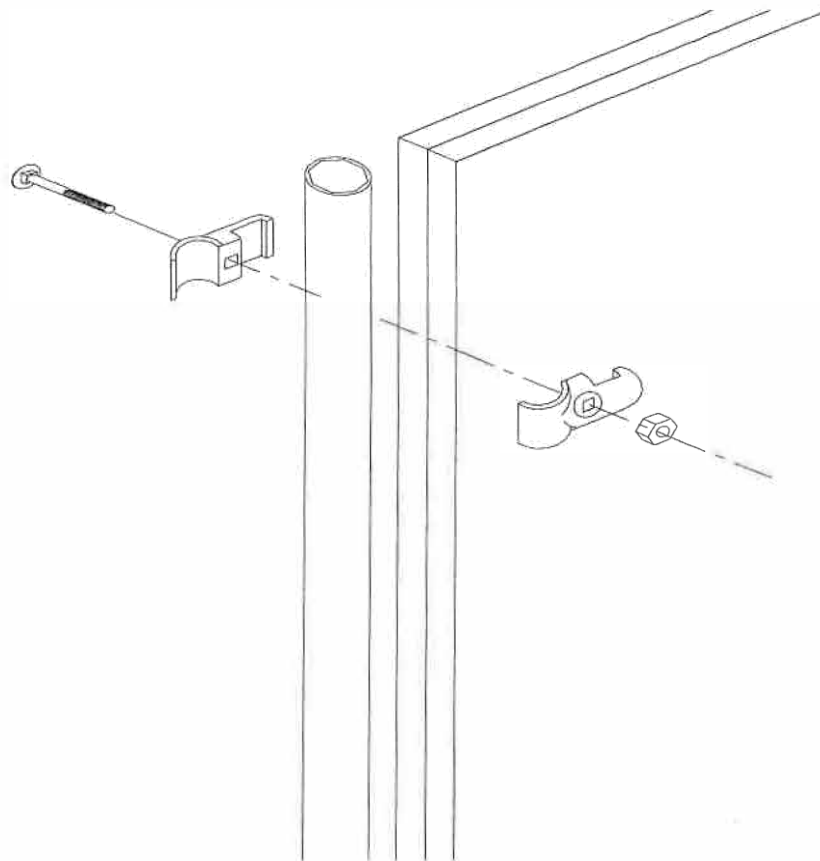

Figure 10
1. Attach the filler pipes to the front end of each division panel with two Square-Round clamps (it takes two halves to make up one clamp) approximately 6" from either end of the filler pipe using the 5/16" x 1-3/4" carriage bolts and 5/16" nuts provided as shown in Figure 10.